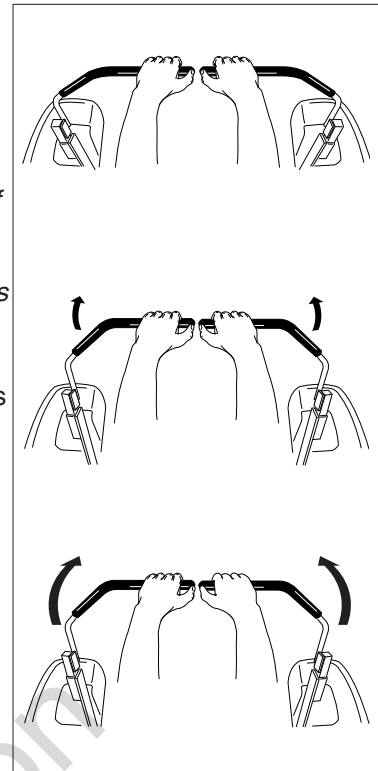

Figure 4. Move Control Levers Gradually
*The BEST method of handling the ground speed control levers is in three steps — as shown in Figure 4.*